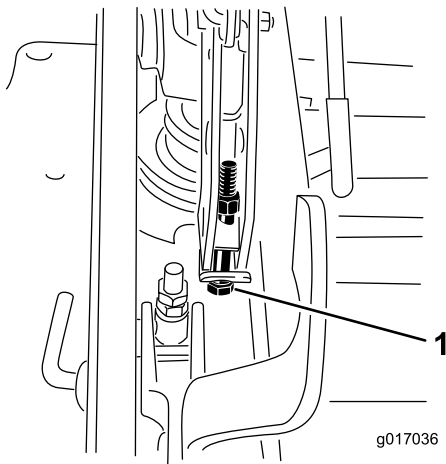

**Figure 110**
**Note:** For rear-discharge machines, the mower deck is attached in the back holes at the factory. Refer to Figure 110. If needed, use the front holes for further adjustment when leveling the mower deck.